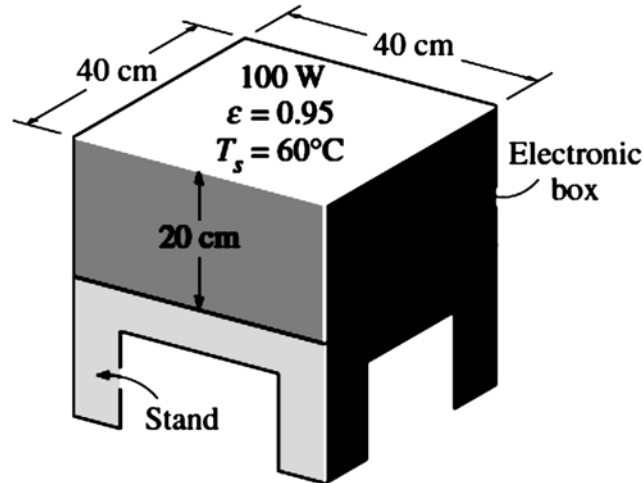

Figure Q5[a]
- Q5. [a]** Consider a sealed 20 cm high electronic box whose base dimensions are 40 cm x 40 cm placed in a vacuum chamber (as shown in Figure Q5[a]). The emissivity of the outer surface of the box is 0.95. If the electronic components in the box dissipate a total of 100 W of power and the outer surface temperature of the box is not to exceed 55°C, calculate the temperature at which the surrounding surfaces must be kept if this box is to be cooled by radiation alone. Assume the heat transfer from the bottom surface of the box to the stand to be negligible.